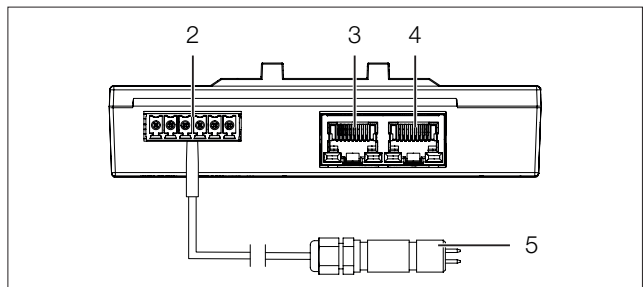

Fig. 3: Rear of the leak point sensor
- Connect the sensor probe connector to the universal interface (fig. 3, item 2).
- Use a CAN bus connection cable to connect the electronic unit of the leak point sensor to a CAN bus interface on the Rittal embedded device or the neighbouring component on the CAN bus (fig. 3, item 3, 4).
- If necessary, connect another component (e.g. another sensor type) to the second, free CAN bus interface of the leak point sensor (fig. 3, item 3, 4).